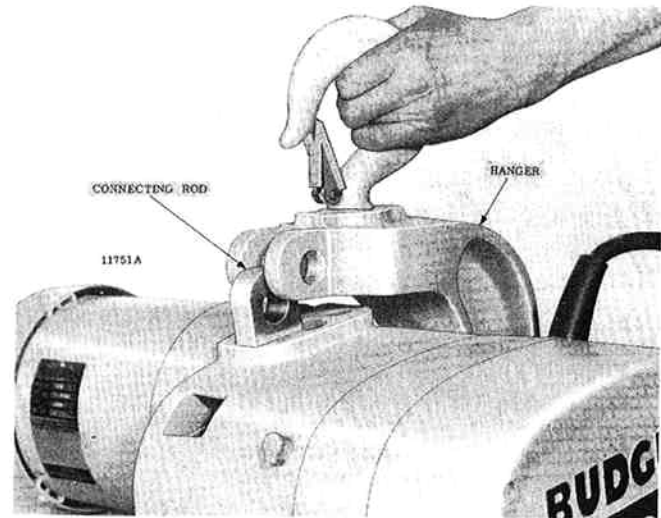
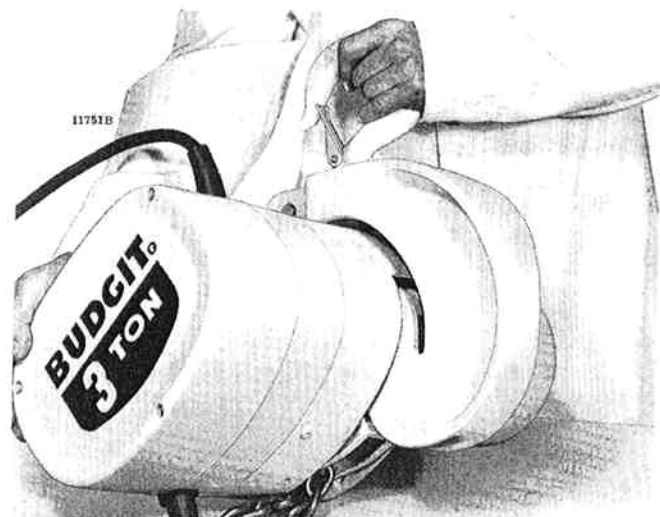
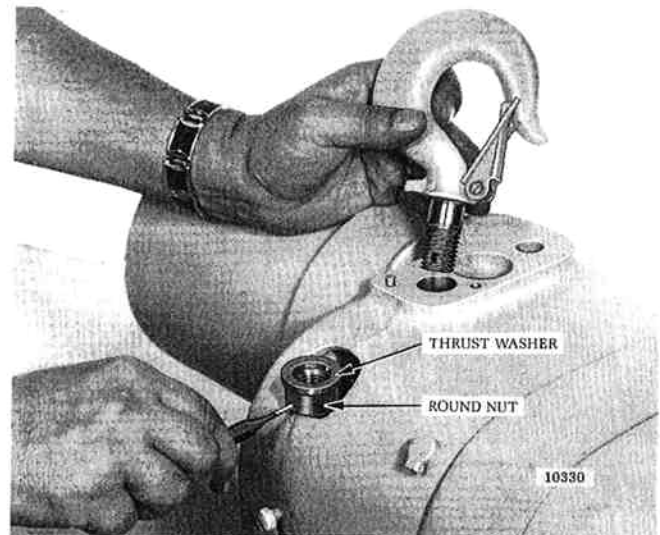

Figure 7-2. 3 Ton Hanger Bracket Connection Pin Removed.
Figure 7-3. Removing 3 Ton Hanger Bracket from Hoist Frame.
Figure 7-18. Removing Upper Hook and Hook Nut From Hoist Frame (1/4 thru 1 ton models).
(4) To remove 3 ton and 5 ton hanger bracket from hoist, remove retaining ring and connecting rod pin (see fig. 7-2). Rotate hoist approximately 45° (see fig. 7-3) and hanger will slip free from hoist frame.
(1) On 1/4 thru 1 ton models, drive pin from hook nut using drift punch and unscrew upper hook. Nut is reached thru access hole in side of hoist frame. See figure 7-18.
(3) On 3 ton models, remove retaining ring from connecting rod pin and push connecting rod pin through bracket and connecting rod, releasing hanger (see fig. 7-2). Raise hanger above hoist frame to provide access to hook nut. Rotate hook until grooved pin in nut is visible from end of hanger frame. Using a drift punch, drive grooved pin thru hook nut until it hits hanger pocket. Remove drift far enough to hold nut from turning and unscrew hook from nut. Thrust washer will fall free.
(4) To remove connecting rod (fig. 7-2) on 3 ton and 5 ton hoist drive pin from rod nut using drift punch and unscrew connecting rod. Nut is reached thru access hole in side of hoist frame. (See fig. 7-18).